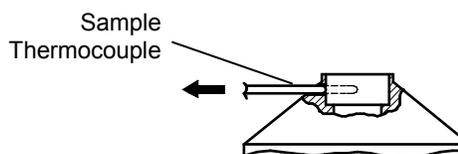

Figure 32 • Retracting the Thermocouple
- Pull gently on the thermocouple wire to retract the thermocouple (see Figure 32).